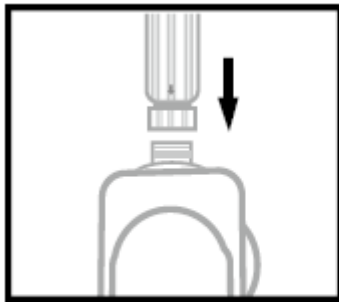

Figure.1
1. Screw the insertion tube into the connector according to the direction of the arrow and tighten the screw nut. (Figure 1)